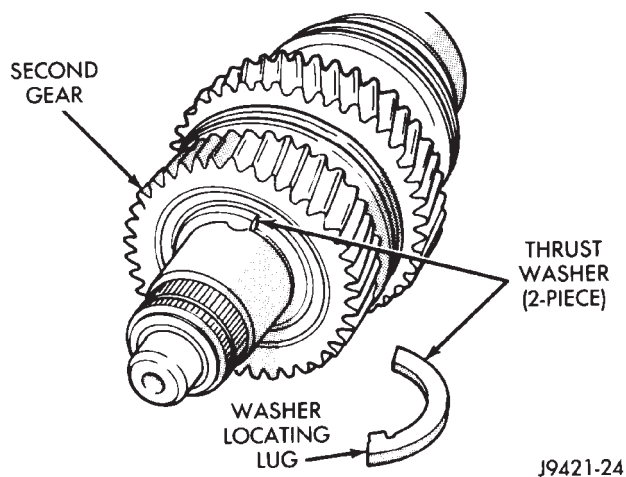

Fig. 40 Two-Piece Thrust Washer Removal
(5) Remove two-piece thrust washer (Fig. 40). Note position of washer locating lugs in shaft notches for installation reference.